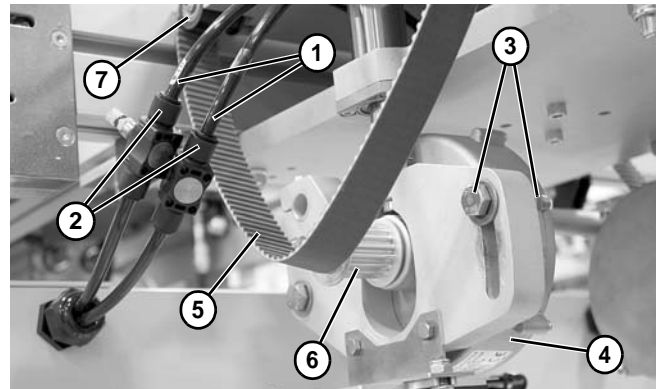

Figure 115
2. Remove tubing (**Figure 115, item 1**) from fittings (**Figure 115, item 2**).
3. Loosen bolt and nut (**Figure 115, item 3**) and push motor (**Figure 115, item 4**) up. Slide belt (**Figure 115, item 5**) off sprocket (**Figure 115, item 6**) and upper rollers (**Figure 115, item 7**).